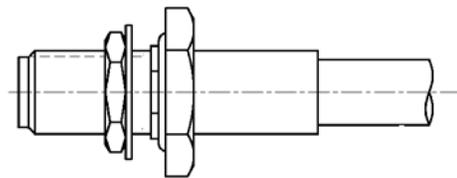

Figure 6
6. The completed connector should appear as shown in Figure 6.